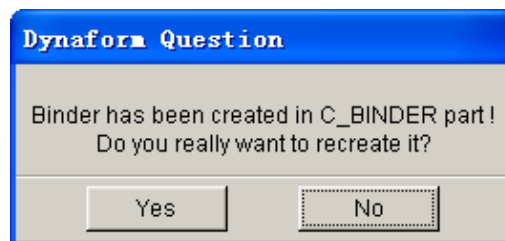

Figure 6.2.9 DYNAFORM QUESTION dialog box
5. If a binder has already been created in the C\_BINDER part, a DYNAFORM QUESTION dialog box as illustrated in Figure 6.2.9 is displayed.